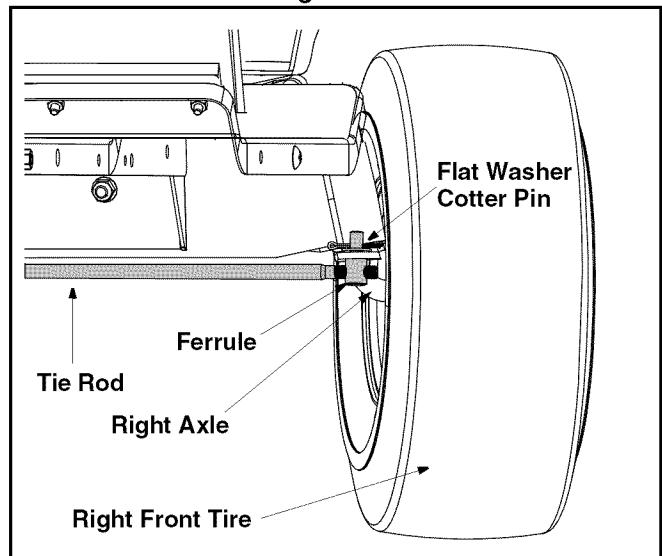

Figure 21
- Locate the ferrule at the right end of the tie rod, just to the rear of the right, front tire of tractor. See Figure 21.